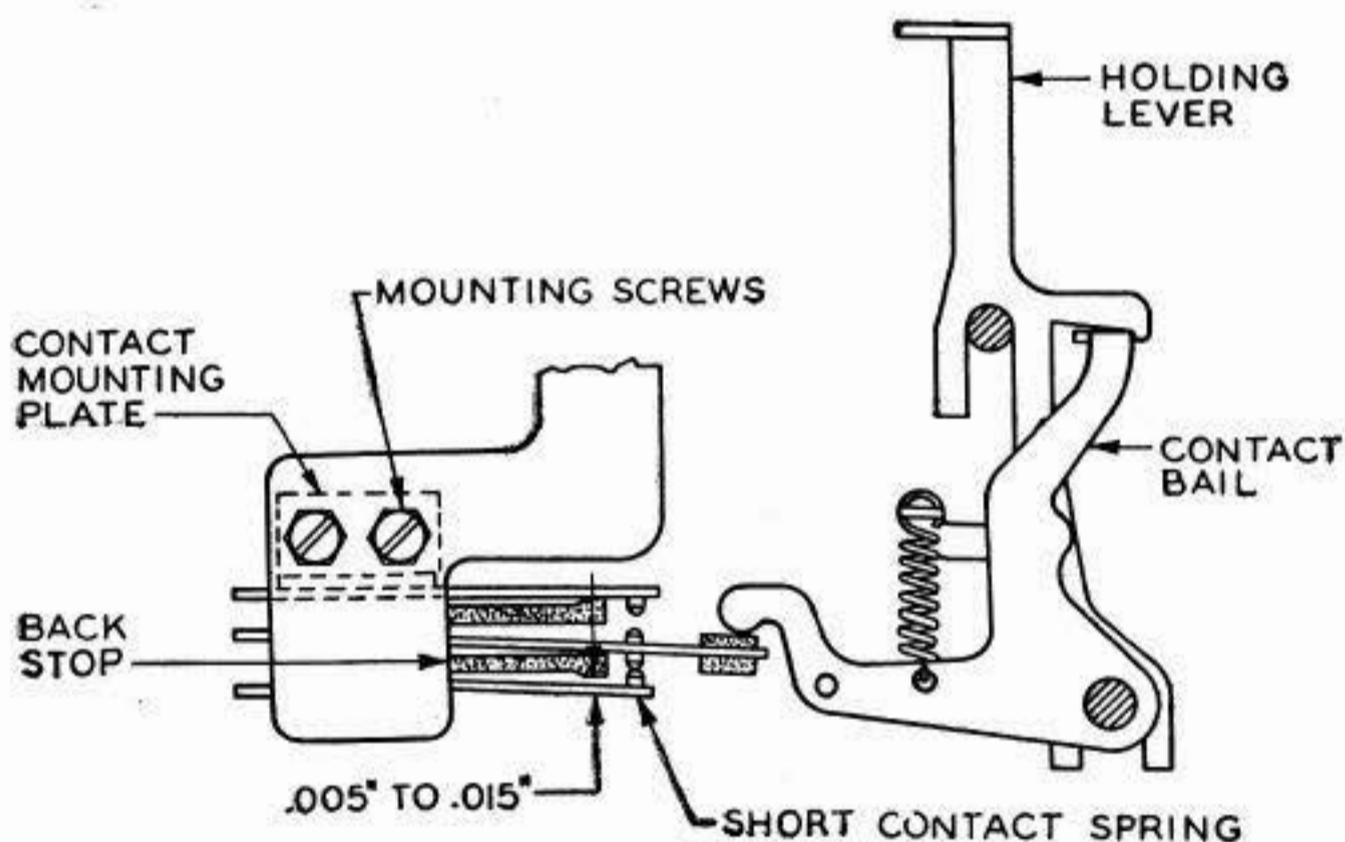

Fig 43
4.17 **Contact Mounting-Plate Adjustment:** With the space-operating lever latched and the contact bail latched against the holding-lever latch there should be a clearance of Min .005", Max .015" between the lower short contact spring and its backstop. To adjust, loosen the four screws holding the contact mounting-plate and position the plate to meet this requirement. Tighten the four plate mounting screws. **Fig 43**